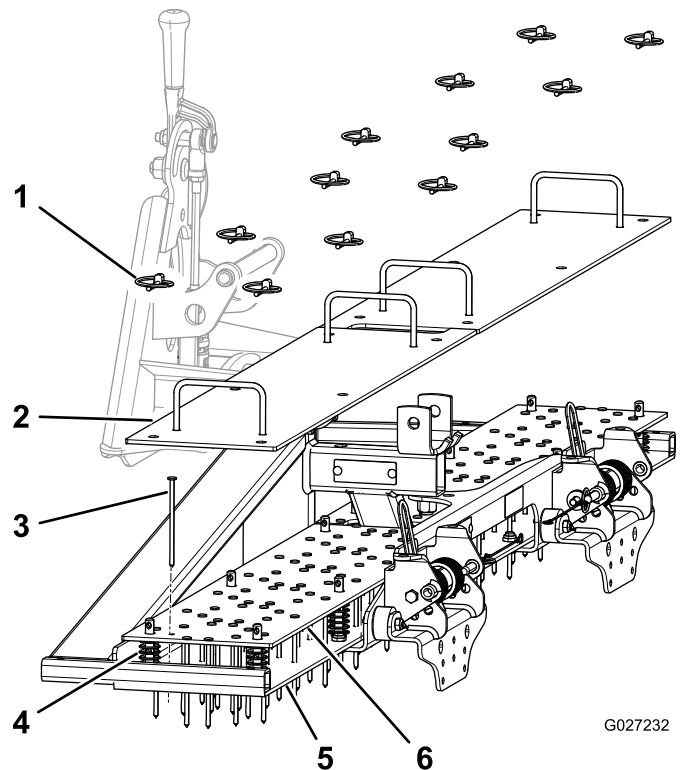

Figure 3
2. Remove the lynch pins (Figure 3).
3. Remove the top plates (Figure 3).
4. Remove the nails (Figure 3).
5. Remove the nail plates (Figure 3).